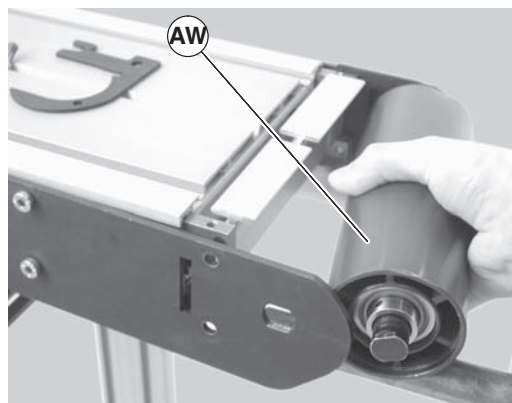

Figure 37
4. Slide the idler pulley assembly (Figure 37, item AW) out of the headplate on the opposite side.